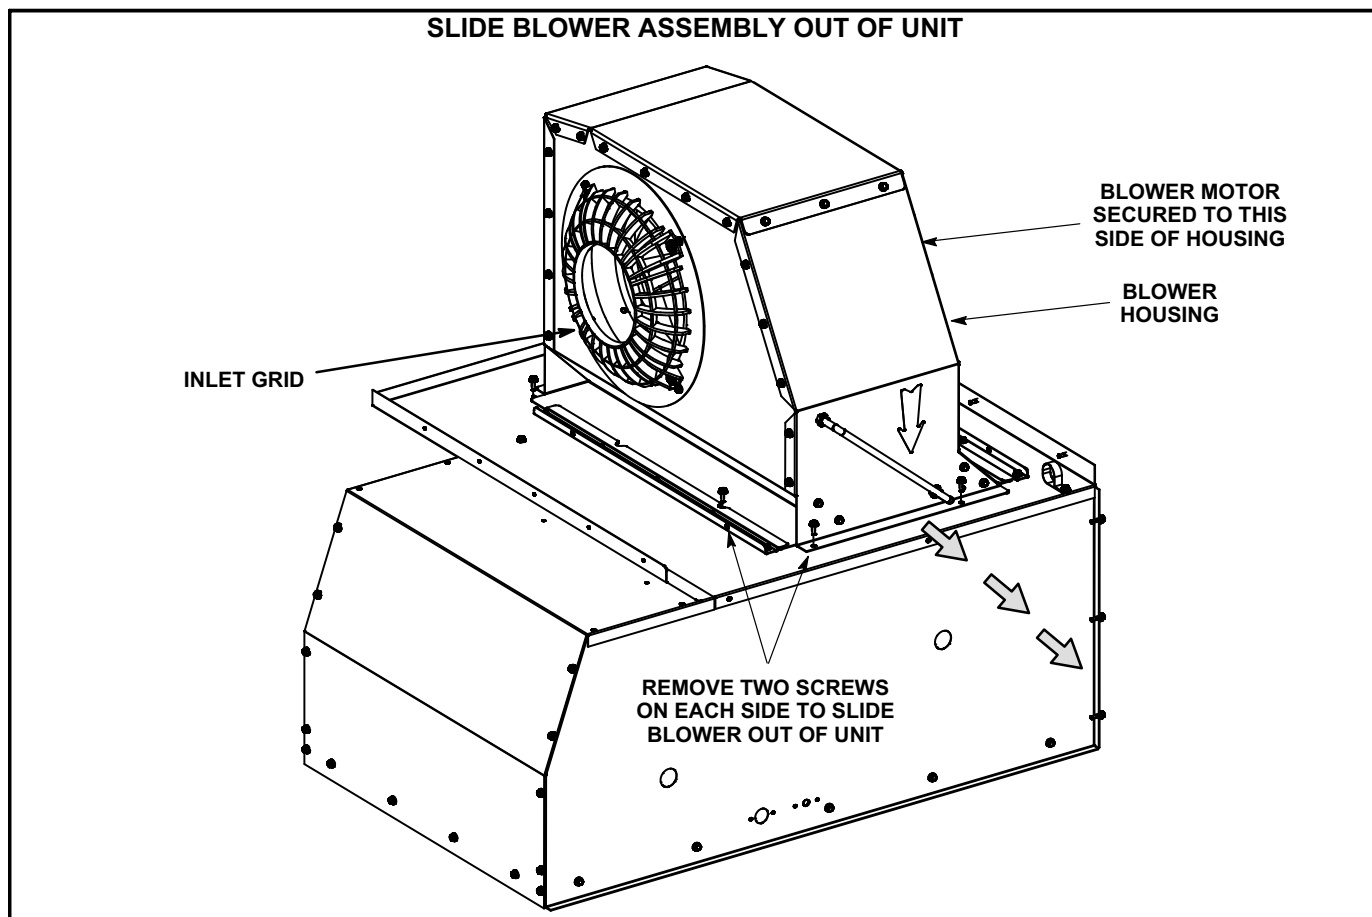

FIGURE 3
- 5- Remove four screws securing blower assembly to unit. See figure 3.
- 5- Install blower assembly flanges into rails on the blower deck in the same manner the discarded housing was removed. Secure into place using four screws shown in figure 3.